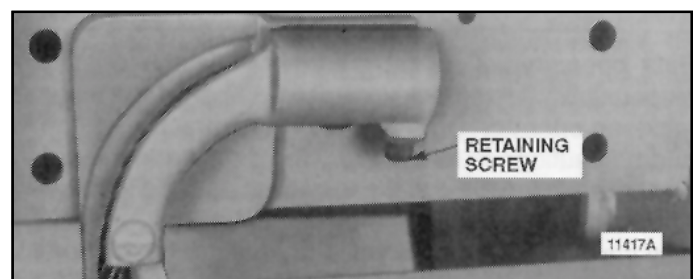

Figure 2-4. Rope End Anchor
d. Check Lower Block and Hoisting Cable. Depress ↓ push button and run lower block to its lowest position. No less than two wraps shall remain on the drum with the loaded hook in its lowest position, unless hoist is equipped with a lower limit switch in which case no less than one and one half wraps shall remain on the drum. Also check to see that lower block and rope does not twist excessively. If it does twist to the extent that two ropes rub against each other, disengage rope from the frame anchor and twist rope four or five turns in a direction opposite to that which the block turns. Reconnect rope to anchor (Figure 2-4), holding firmly to eliminate rope twisting back to its original position. Operate hoist up and down a few times. If lower block still rotates, repeat process until twisting is corrected.